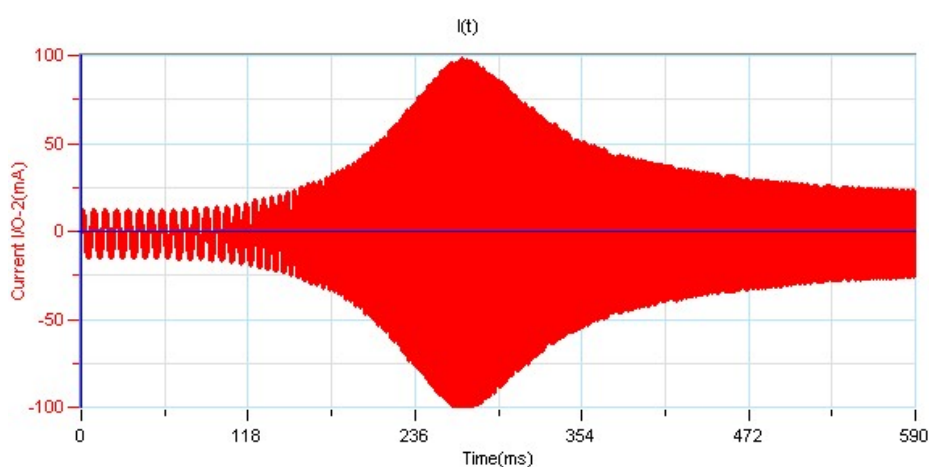

Figure 3
8. You may want to repeat the experiment several times until you get satisfactory results. The voltage and the current will be displayed in the same window, we show them separately in figures 3 and 4.